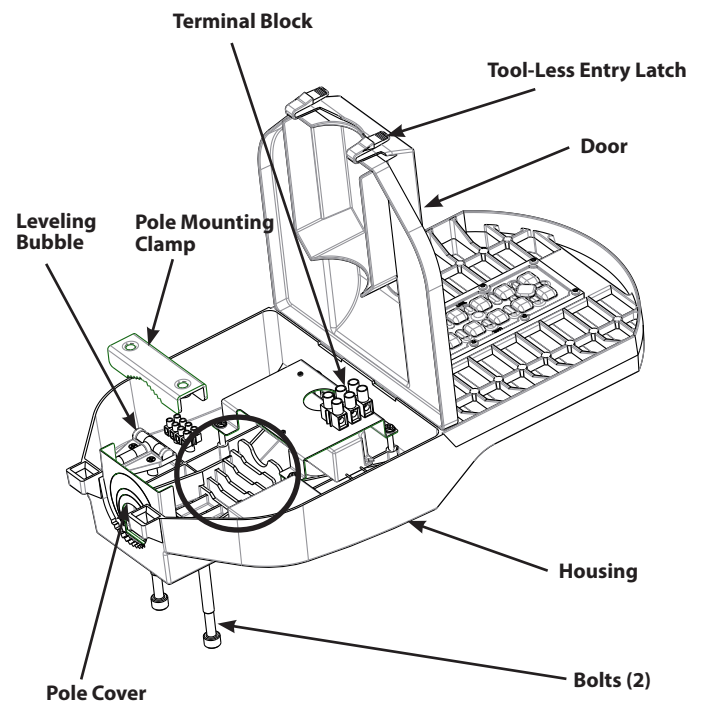
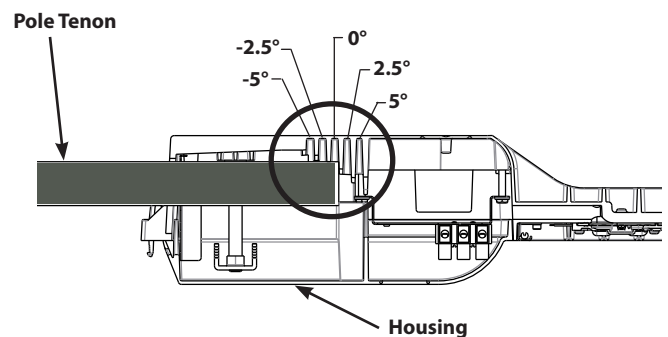

Fig.1
Fig.2
4. The **Housing** can be mounted at -5 degree, -2.5 degree, 0 degree, 2.5 degree and 5 degree shown in circle in Fig. 1 and Fig. 2. Use **Leveling Bubble** to level **Housing**. Note: **Housing** is mounted at 0 degree in Fig. 2.
5. Secure Housing on pole using **Pole Mounting Clamp** and tightening **Bolts (2)** provided.